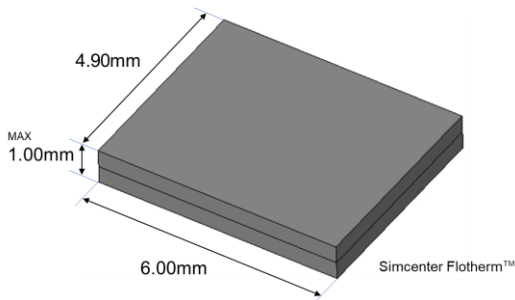
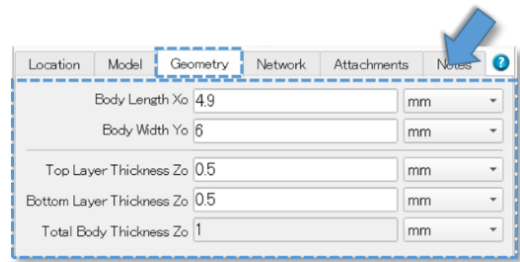

Figure 9. Reference example of the two-resistor model
Figure 10. Example of entering dimensions of the two-resistor model
4. By referring to the two-resistor model (Figure 9) in the application note obtained in step 1, enter the dimensions of the model to create in the “Geometry” tab as shown in Figure 10. At this time, for the top and bottom layer thickness values, enter half of the thickness in the Z-direction, respectively.